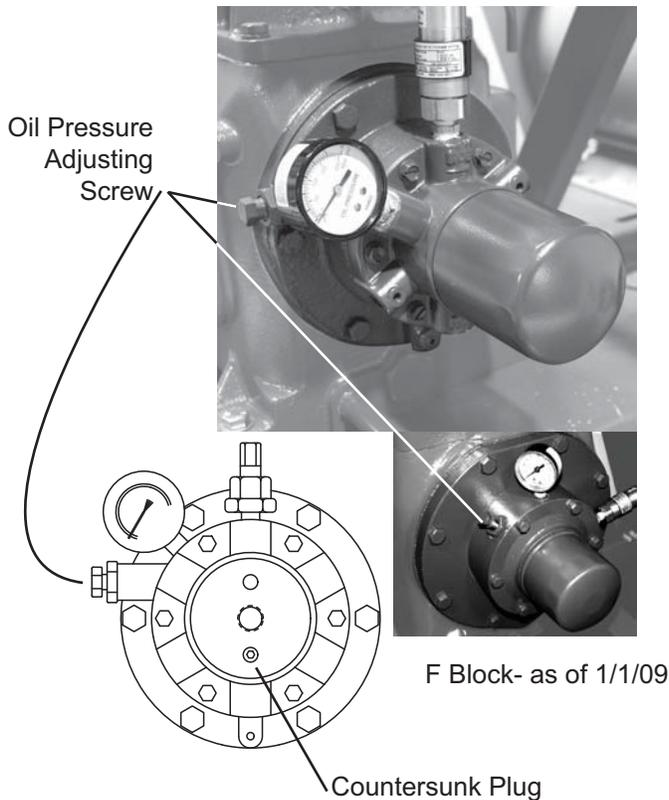

Figure 18: Oil Pump - 'B', 'C', 'D', 'E', 'F', 'G', 'H' and 'V' blocks (including F blocks as of 1/1/09)
To increase pressure on F-blocks built prior to 2009, adding more valve discs will increase pressure, while removing valve discs will decrease pressure. Each valve disc changes the oil pressure by approx 2.5 PSIG. On F-blocks made after 1/1/09 the oil pressure can be changed using the adjusting screw (see figure 18). Set the oil pressure to 45 - 50 PSIG with compressor at normal operating temperature. Each valve disc changes the oil pressure by approximately 2.5 PSIG.
4. Remove the countersunk pipe plug from the oil pump housing (underneath the oil filter) and place it into the opposite hole. It should now be in the bottom hole (Figure 18). Failure to replace this plug in the proper position will result in a complete loss of oil pressure to the compressor, causing the compressor to seize and the warranty to be void.